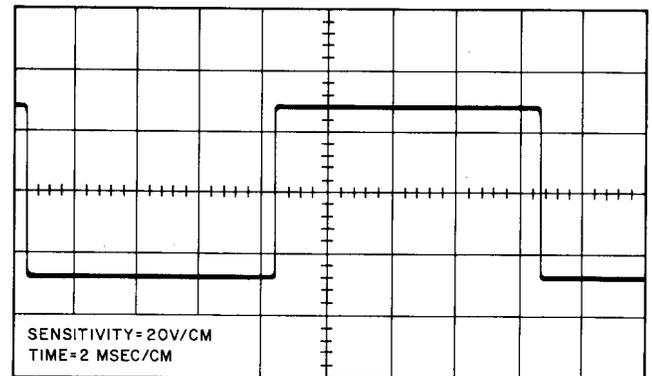

Fig. 16—Master and Slave Oscillator Drive Waveforms
- (4) Check that the waveform between TP202-TP204 and TP203-TP204 is similar to Fig. 16.
- (5) If the waveforms are not similar to that shown in Fig. 16, check Q202 and Q203.
- (6) If the waveform is still incorrect, replace the master logic circuit pack.
- (8) If the above waveforms are not correct, check the waveform between TP402-TP404 and TP403-TP404 and compare to Fig. 16.
- (9) If the above waveforms are correct, check for defective CR409 through CR414 and CR423.
- (10) If the waveform is not correct, continue checking per 5.08(a) and/or (b).
- (3) If the waveform at TP501-TP507 and/or TP508-TP507 is not correct, check that the waveform between TP202-TP204 and TP203-TP204 is similar to Fig. 16.
- (4) If the waveform is correct, check for a defective CR208 through CR213 or CR222.
- (5) If the waveform is not correct, check Q201, Q202, and Q203.
- (6) If the defective component is not found, replace the master logic pack.
- (7) If the waveform at TP505-TP510 and/or TP509-TP510 is not correct, check that the waveform between TP402-TP404 and TP403-TP404 is similar to Fig. 16.
- (8) If the waveform is correct, check for a defective CR409 through CR414 or CR423.
- (9) If the defective component is not found, replace the slave logic pack.
- (10) If the waveform is not correct, check as given in 5.08(a).
- (11) If one or more of fuses F501, F502, F526, or F527 continues to blow when the inverter is turned ON and all waveforms are correct, the problem could be an SCR breaking down at high voltage.
- (12) If F501 or F526 blows, high-voltage breakdown could be occurring in CR501 and/or CR502.
- (13) If F502 or F527 blows, high-voltage breakdown could be occurring in CR505 and/or CR506.